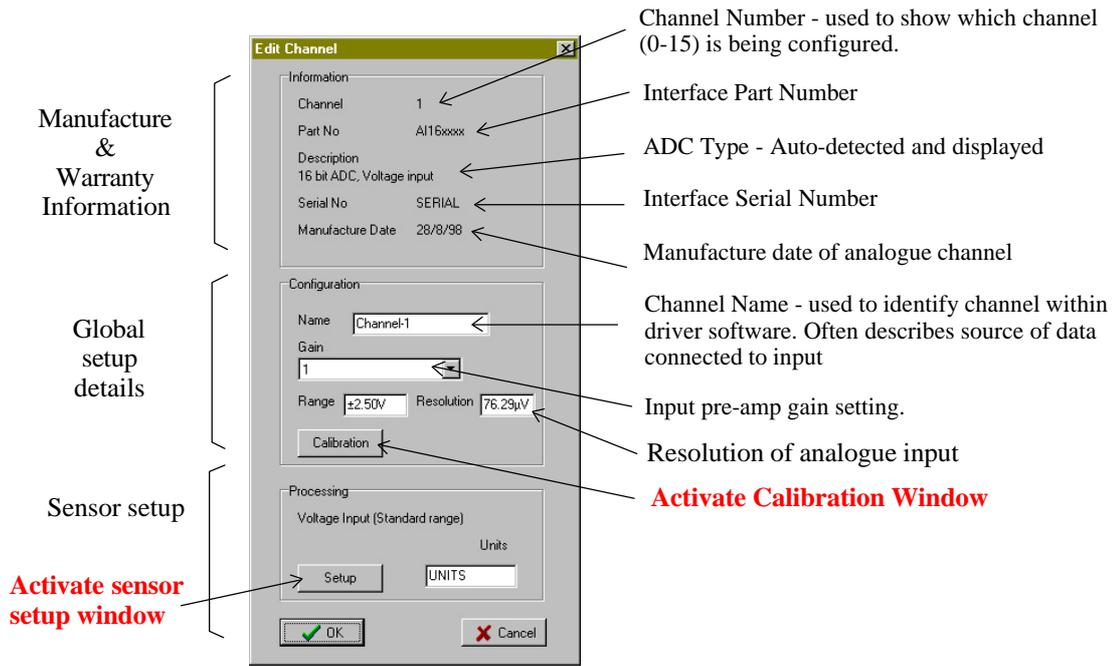

Figure 20 PodMng Software - Edit Channel Window
- 1) At the Display Window (See Figure 20) select the **Text (Raw)** or **Text (Processed)** tab.